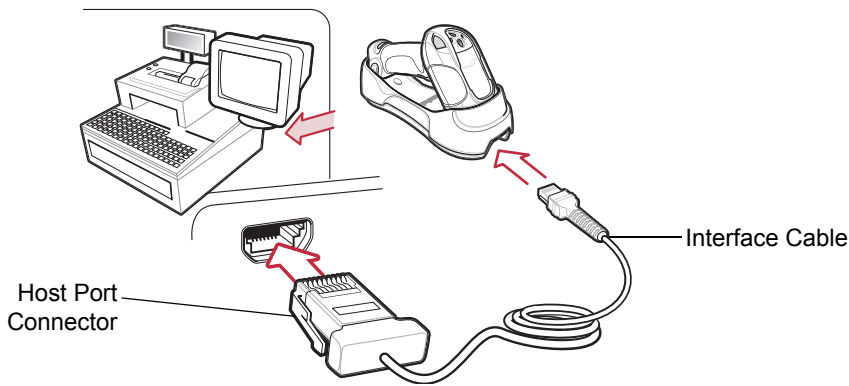

Figure 9-1 IBM Direct Connection
- ✓ **NOTE** Interface cables vary depending on configuration. The connectors may be different from those illustrated in Figure 9-1, but the steps to connect the digital scanner cradle are the same.